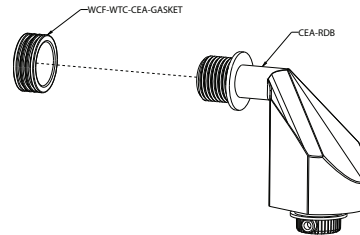

Fig. 17
2. Remove the existing gasket, and place WCF-WTC-CEA-GASKET onto the threaded nipple of the CEA-RDB accessory. (See Fig. 17)